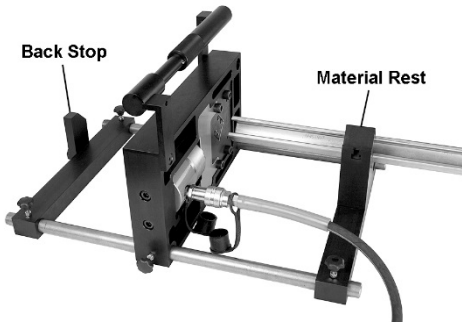

Figure 3: setup for larger materials
1. Slide material rest onto the two rods, and insert rods through holes in main unit, as shown in Figure 3. Position material rest about 6 to 8 inches from, and perpendicular to, the cutting die.
3. For making multiple cuts to identical length, install back stop (see Figure 3). Measure from surface of cutting die to back stop; then add 3/4-inch (19mm) for final cut length.